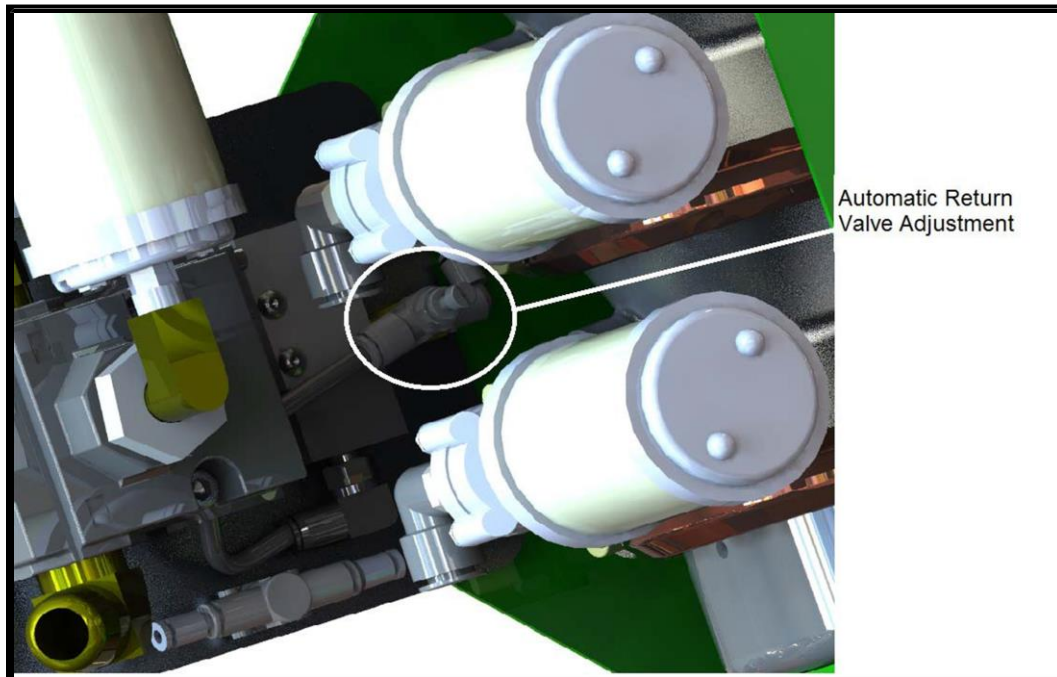

Figure 15 Automatic Return Valve
3. In order to help find the leak the, the dwell time of the press must be increased by adjusting the automatic return pulse unit to the longest setting. (Figure 15 Automatic Return Valve)